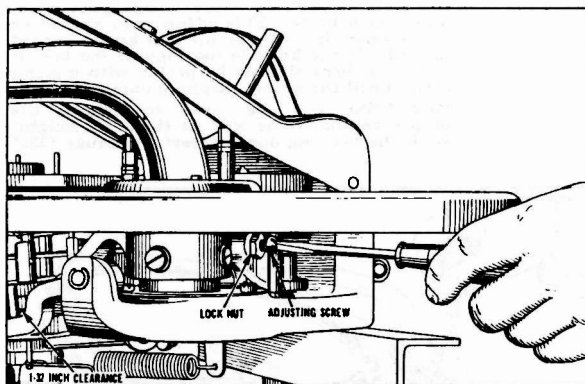

Fig. 2—Adjusting Sound Box Lift Lever
Loosen the lock nut and adjust the sound box lift lever adjusting screw as shown in Fig. 2 until there is a clearance of approximately $\frac{1}{32}$ " between the under side of the taper tube arm casting and the top of the sound box lift lever as shown. This clearance can be checked by placing a thin piece of cardboard between the two points and observing whether or not there is a dragging on the cardboard when the tone arm is moved toward the center of the record. *This clearance is highly important and will affect other conditions of the mechanism if not properly adjusted.*
2. EXCESSIVE WEAR ON RECORDS—If excessive wear on the records is noted, the same adjustments as described in subject 1 above should be made. It may be possible that the needle will move into the record groove after striking the smooth outside rim, but will cause excessive wear on the record due to a slight contact between the two points shown in Fig. 2 where the $\frac{1}{32}$ " clearance should exist.
- b. If the condition is still not corrected, particularly if there seems to be a sluggish action of the return of the tone arm, remove the sound box lift lever spring shown in Fig. 2, and increase its tension by shortening the straight section of the spring, bending it nearer the coiled section.